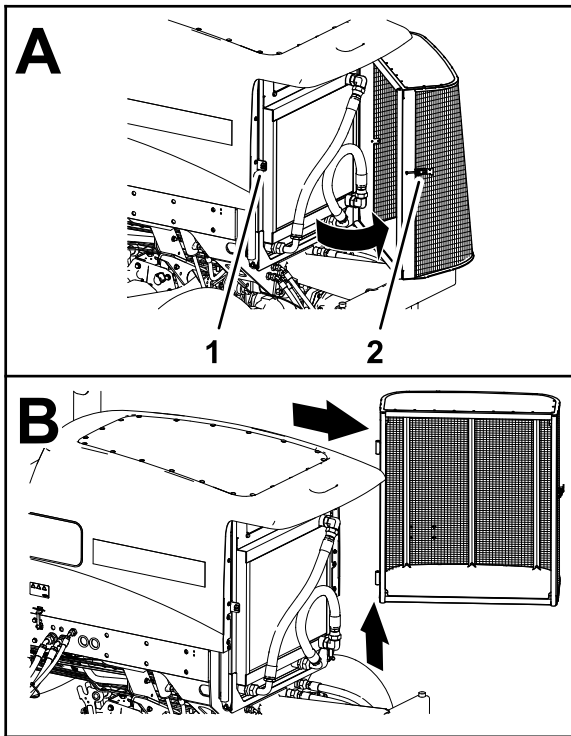

Figure 156
2. Unlatch and open the rear screen (Figure 156).